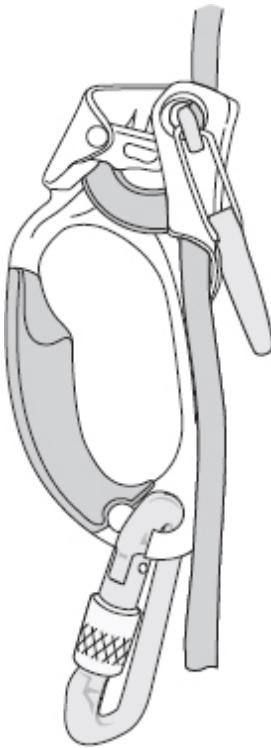

Fig. 15-29. Carabiner clipped through ascender top hole and around the rope to prevent ascender from detaching from the rope.
3. Clip the bight in to the carabiner attached to the belay loop. Pulling on the free end that comes out of the lower-out point, cinch yourself up and hold your weight on the climbing rope through the lower-out point (fig. 15-28c). Retrieve all of the team gear before lowering out. Two additional optional steps are (1) clipping a carabiner as a backup around the rope and through the top hole of either (or both) ascender(s), to ensure that the ascender stays on the rope (see Figure 15-29), and (2) shortening the daisy chain on the upper ascender to reduce the overall lower-out distance.
end of the rope that goes to the leader, for another backup. Consider clipping a carabiner through the hole of the ascender and around the rope, for one or both ascenders (fig. 15-29).